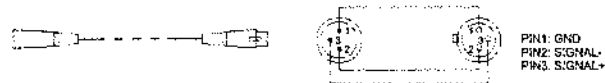

Fig.11
5.Signal wire and connector link(See Fig.11):